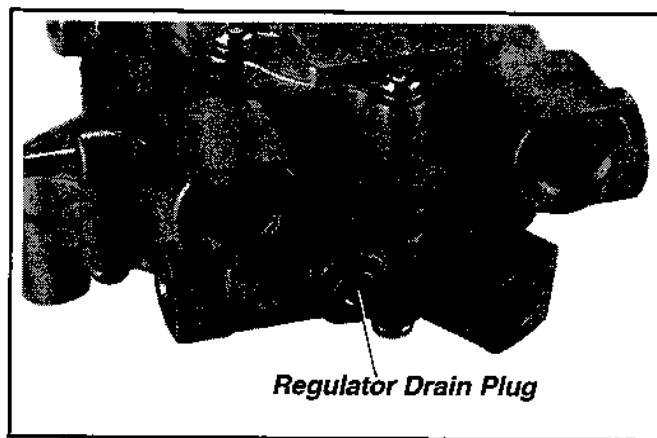

Figure 12. Nikki Regulator Drain Plug.
3. Remove the 1/8" pipe plug from the bottom of regulator and drain any accumulated deposits. See Figure 12.